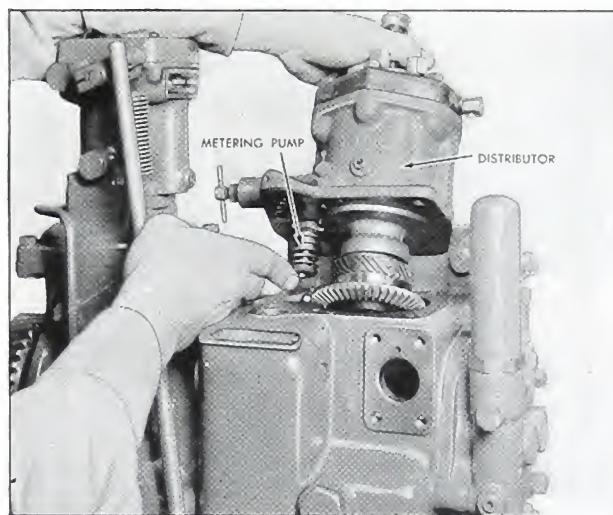

Fig. 5-162. Distributor assembly
4. Place a gasket of the proper thickness on top of the fuel pump main housing. Assemble the distributor housing to the main housing while carefully guiding the metering plunger link into position in the plunger. Mesh the gears by rocking the drive shaft. Fig. 5-162.